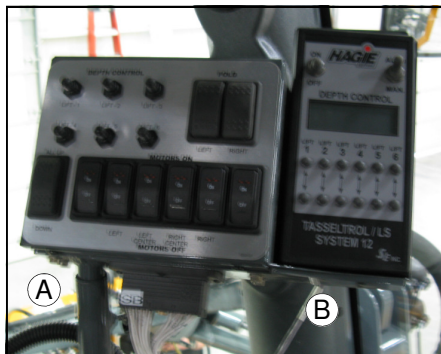

FIG. 31-5
**PANEL**–The detasseling heads and lift assemblies are controlled by the Hagie Tasselrol®/LS System 12 (fig. 31-5, item B) and the controls on the detasseler switch box assembly (fig. 31-5, item A). Refer to section B under SYSTEM PROGRAMMING for details on the Hagie Tasselrol® box. Continue reading this section for detailed information on the functions of the switches.